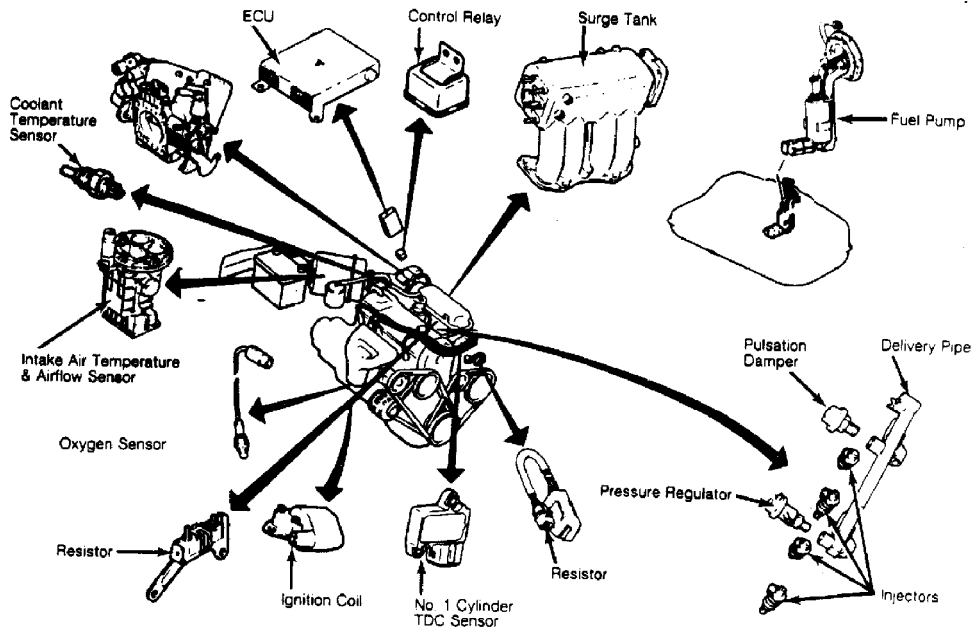

Fig. 10: Adjusting Throttle Sensor
2) If current flows to both voltmeters, remove throttle sensor adjusting screw cap and turn adjusting screw counterclockwise. If current does not flow to either voltmeter, turn adjusting screw clockwise. See Fig. 10. Remove test equipment. Reconnect Green connector and insert cap over throttle adjusting screw.